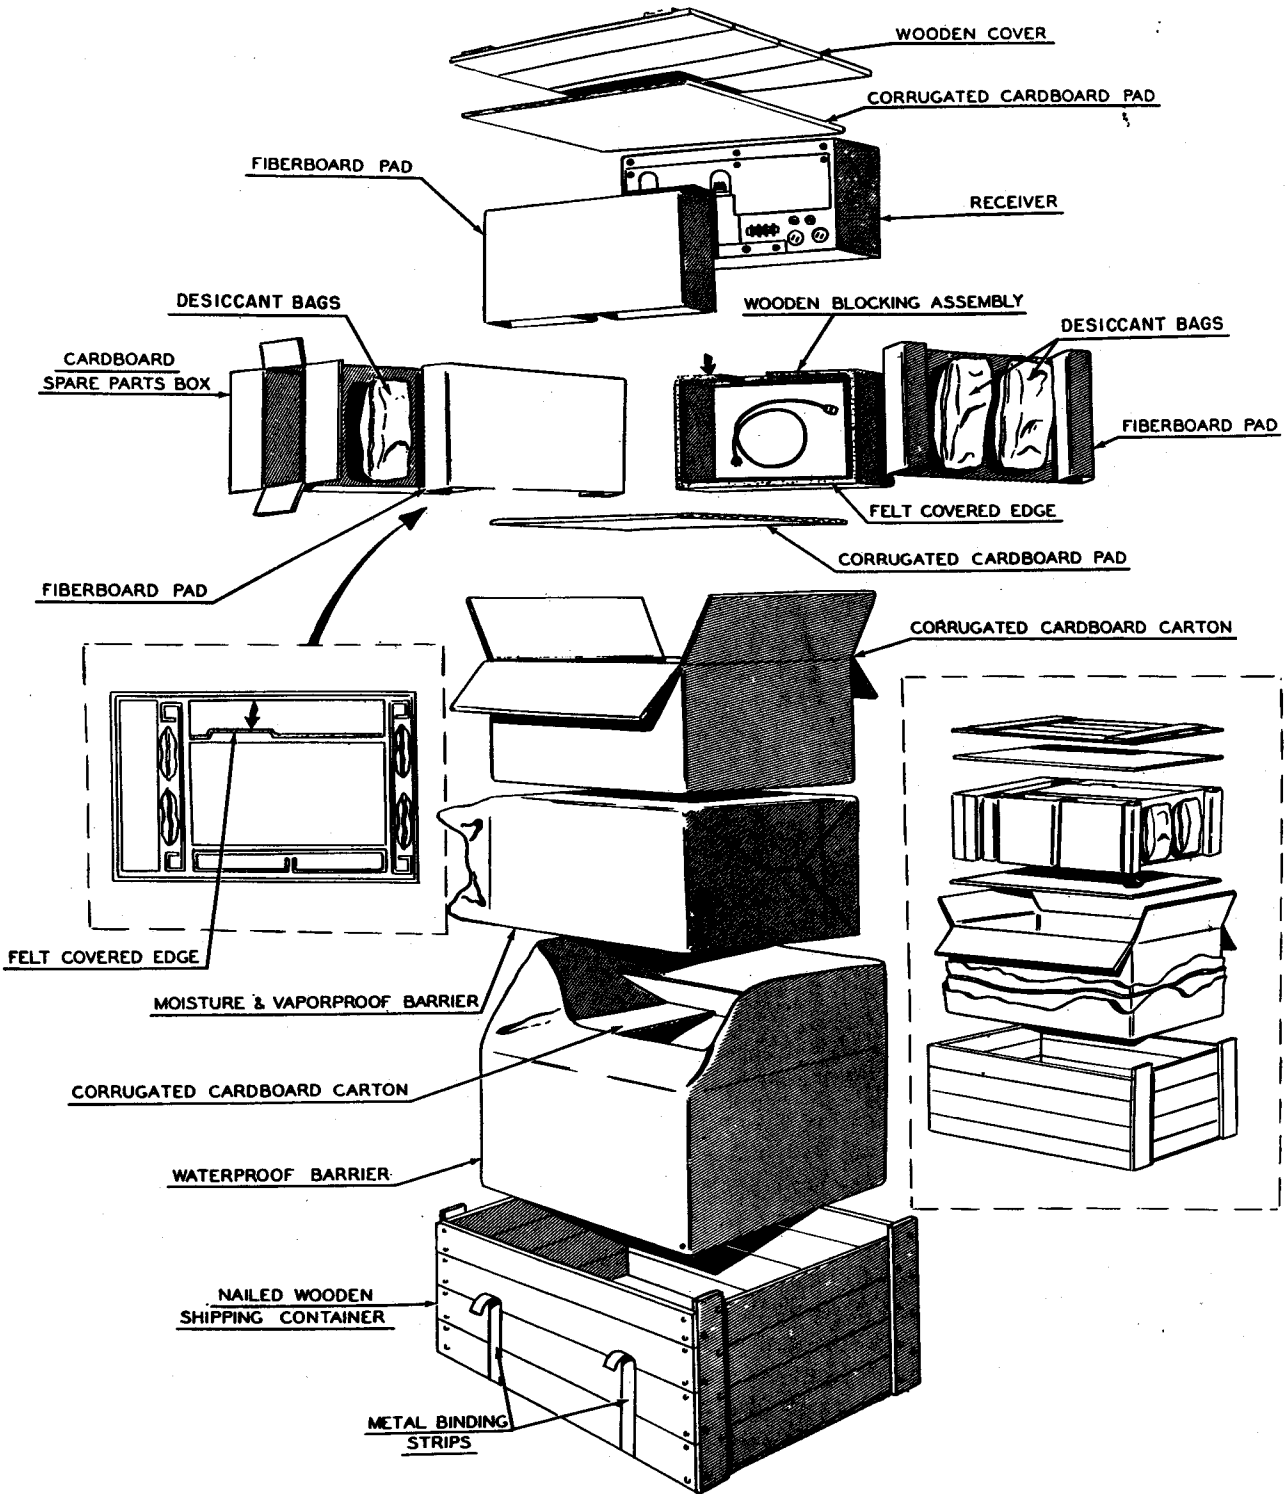

Figure 4. Packaging and packing of Radio Receiver R-274/FRR.
Radio Receiver R-274/FRR and its spare parts are packed for export shipment in a wooden box. Between the receiver and wooden box, protection from water, moisture, and vapors is obtained by two barrier packages and two cartons. The arrangement of these protective layers is shown in figure 4. The front panel of the receiver is protected by a padded wooden frame. All sides of the receiver are padded with corrugated cardboard. Bags of silica gel are placed within the
**Caution:** Be extremely careful during the unpacking process so that no damage occurs to the receiver or spare parts. Dropping the unit (crate) or poking through the container with a sharp instrument could cause severe damage to the inclosed pieces. Take the packages apart in such a manner that no undue force is placed upon the contents. If possible, unpack the receiver in a location which is dry and free from dust and dirt. Figure 4 indicates the sequence in which the containers are placed around the receiver and spare parts. Follow the unpacking instructions in the order given to provide the most rapid means of safely removing the receiver and spare parts from the crate.